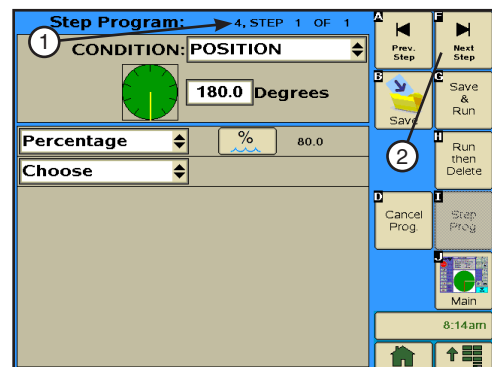

Figure 130-3 1. Step Program Identifier
- Enter the command to be executed at this position. Refer to Figure 130-3.